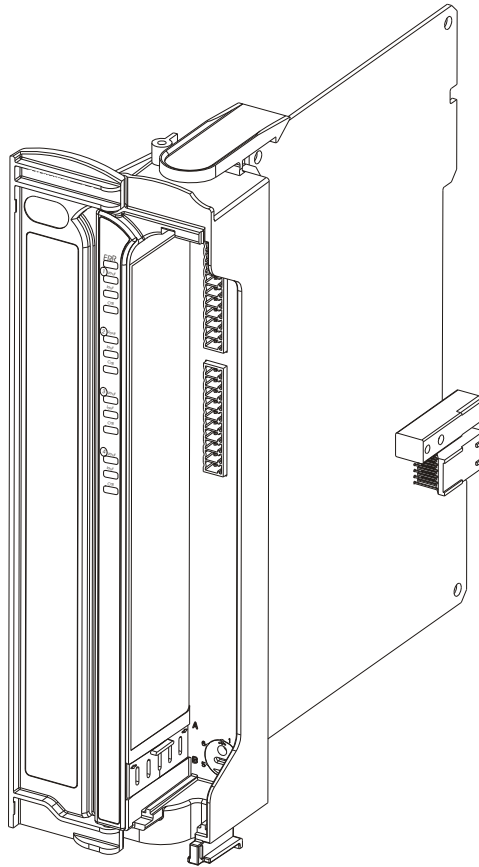

Figure 13-1 ACE3600 AO Module – General View
The Analog Output (AO) modules have four optically-isolated analog output channels for controlling user devices (see Figure 13-1). Each channel has two possible outputs: 0-20 mA Interface industry standard current output and 0-10 V Interface industry standard voltage output. Only one of the outputs can be enabled in a particular channel - either current or voltage.
Figure 13-1 provides a general view of the ACE3600 AO module.